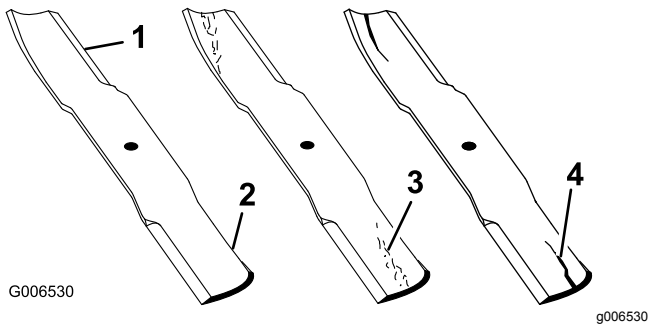

Figure 61
1. Inspect the cutting edges (Figure 61).
4. If you notice any cracks, wear, or a slot forming in this area, immediately install a new blade (Figure 61).